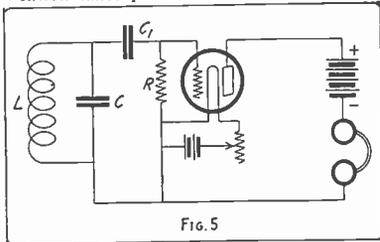
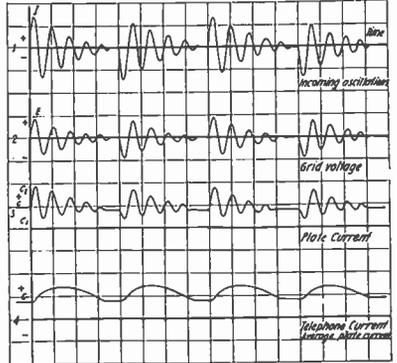

Fig. 5
Fig. 6
amount of gas which acted as a conductor and permitted the negative charges to leak off the grid to the filament and neutralize themselves with the positive charges on the other plate of the condenser C. The new high vacuum tubes do not permit this action because of the absence of any gas. A conductor of some kind must be connected from the grid to the filament over which the charges can flow. This conductor should be of such a resistance that no current will flow in it until the condenser C₁ has been fully charged, i. e., not until the end of the group of oscillations. If the resistance is too high, or else entirely absent, the charges will accumulate until they are large enough to pass thru the vacuum of the tube. This action will be noticed by a constant "put, put, put" sound in the telephones. The resistance just described is called the "grid leak." It is shown as "R" in Figure 5. The actual value of it depends upon various things, but it is almost always between one and four million ohms. Both the Marconi vacuum tube and the V T 1 are supposed to operate best on two million ohms, altho the writer has generally had better results using four or five million ohms with the V T 1.
from filament to grid; if negatively charged, it will prevent any current. Refer now to Figure 5. Incoming oscillations will induce an alternating current in the circuit L C. The charges of electricity in C will cause the grid to become alternately positive and negative, decreasing and increasing by the same amount. When the grid is negative (with respect to the filament), no current can flow in its circuit, as was just explained. But when the grid is positive, negative electrons will flow to the grid and will be stored up in the grid condenser C. The next oscillation will repeat this process and add a negative charge to the grid condenser C. Thus the grid condenser stores up more and more negative charges as long as the oscillations continue. It will be plainly seen that as the grid condenser becomes more negative the grid itself becomes more and more negative with respect to the filament.
trated by curve (1) of Figure 6. In the case of a 500-cycle set working on 600 meters wave length, there will be 2×500 , or 1,000 groups of oscillations per second. And each group will consist of oscillations of a frequency of 500,000 cycles per second. For example, in curve (1) from *O* to *A* will be 1/1000 of a second, and will contain oscillations of radio frequency (say 1,000,000 per second).
These incoming oscillations in the antenna circuit will induce similar oscillations in the circuit *LC* of Figure 5. They will then be rectified by the tube and will cause a current in the grid-filament circuit, as shown in (2) Figure 6, and, according to the discussion above, will cause the grid voltage to vary, as shown by curve (3). At point *O* in (3) the grid is at zero volts. It then becomes more and more negative until the oscillations cease, when the negative charge leaks off by means of the "grid leak" and the grid again becomes zero potential. Such action occurs as at points *A* and *B*.
tions in the circuit *LC* of Figure 5. They will then be rectified by the tube and will cause a current in the grid-filament circuit, as shown in (2) Figure 6, and, according to the discussion above, will cause the grid voltage to vary, as shown by curve (3). At point *O* in (3) the grid is at zero volts. It then becomes more and more negative until the oscillations cease, when the negative charge leaks off by means of the "grid leak" and the grid again becomes zero potential. Such action occurs as at points *A* and *B*.
With no incoming oscillations, the plate current has a certain constant positive value. But the negative charges on the grid reduce the plate current according to curve (4) in Figure 6. When the grid charge leaks off and the grid becomes zero again, the plate current also becomes normal, as at *A* and *B*.
Let us arrange an ordinary detector set as shown in Fig. 5 and add to it an inductance in the plate circuit. Such an arrangement is illustrated in Fig. 10, where L_p is the plate inductance. Consider the filament lighted normally and no oscillations coming in on the grid (thru *LC*). As we